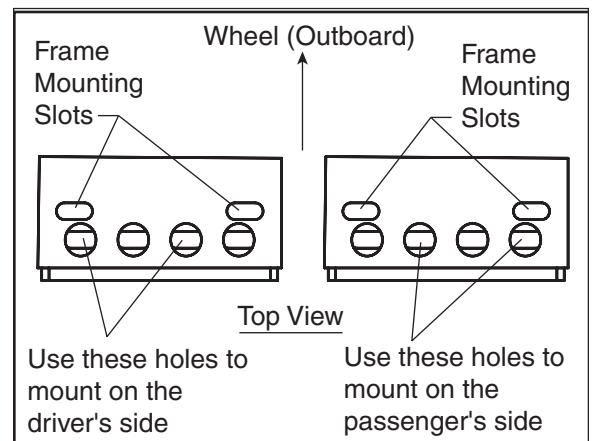

Figure 6
*Note:* It will be necessary to use the correct holes for driver and passenger side mounting. See diagram to correctly index the bellows and the upper bracket (Fig. 6).